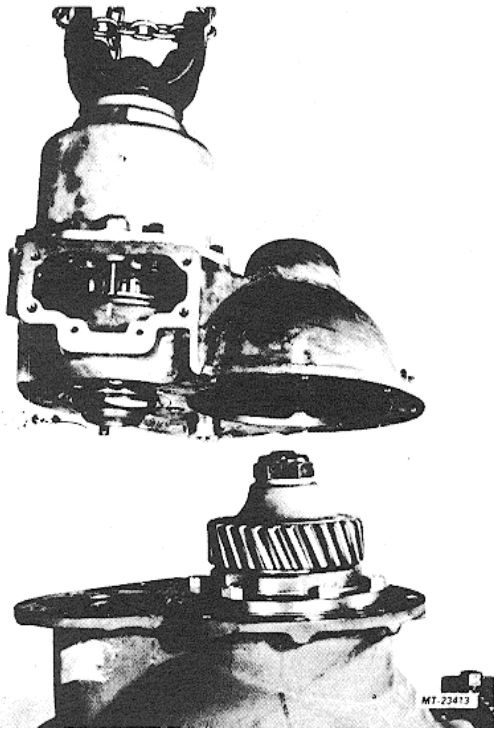

Fig. 48. Installing Intermediate Case To Diff Carrier
2. Position intermediate case assembly on diff carrier (Fig. 48). Make sure flats on end of idler shaft index with flats in carrier.